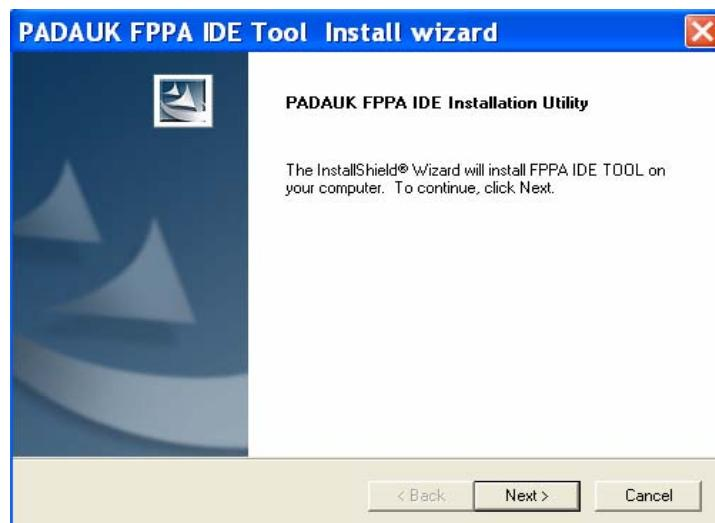

Fig.3-2 : Installation Utility
Step 2 : Click 【Install Products】 , the window of Installation Utility is shown as Fig.3-2 。